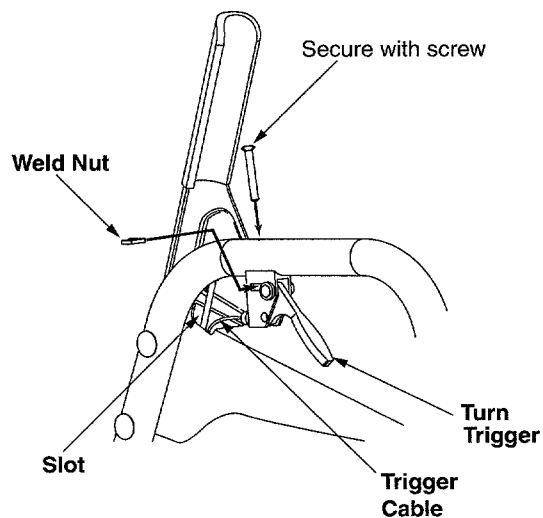

Figure 12
- Place the right turn trigger in position underneath the right handle. Secure with screw and weld nut from group H of the hardware pack. See Figure 12. You will need a phillips screwdriver for tightening the screw.